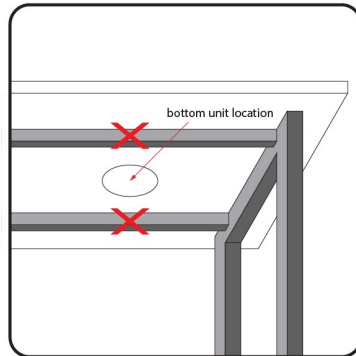

Figure 2: Assure clearance from metal objects
- Assure 1" clearance from table metal objects (figure 2).